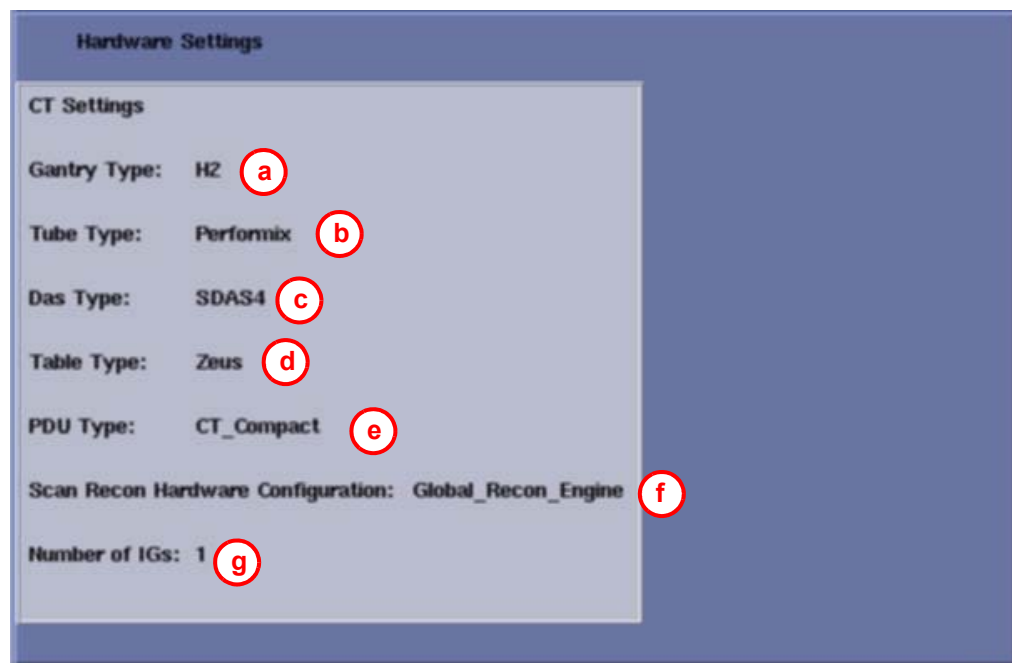

Figure 5-13 Hardware Settings Screen (Example Only - Actual screen may vary.)
- 7.) Click on the HARDWARE tab to display the Hardware Settings Screen (Figure 5-13).